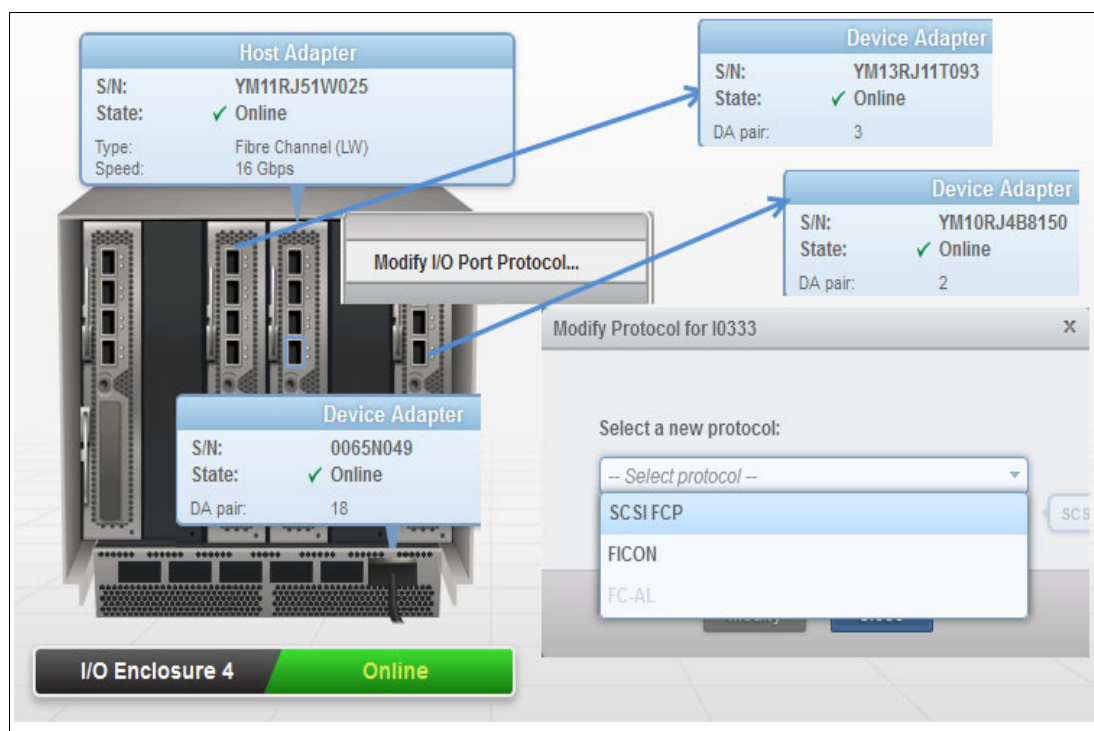

Figure 11-95 View I/O port: Modify port topology
The following are the node attributes shown in Figure 11-95:
- ▶ Device adapter (DA)
- ▶ Host adapter (HA)
- ▶ New device adapter function for connection to the new flash enclosure, DA pair 18 shown in Figure 11-95 on page 326.
Point to a port, and detailed information about the port is displayed. The port topology can be modified by selecting the port, right-clicking, and selecting **Modify I/O Port Protocol**, as shown in Figure 11-95.